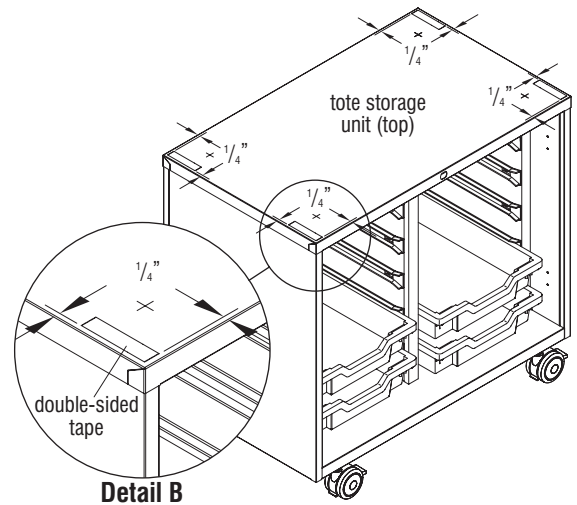

Figure 4
6. Apply 3" long strips of double-sided tape to top corners of the storage unit, about $\frac{1}{4}$ " from the edges of the front and back at each side (Figure 4 & Detail B).